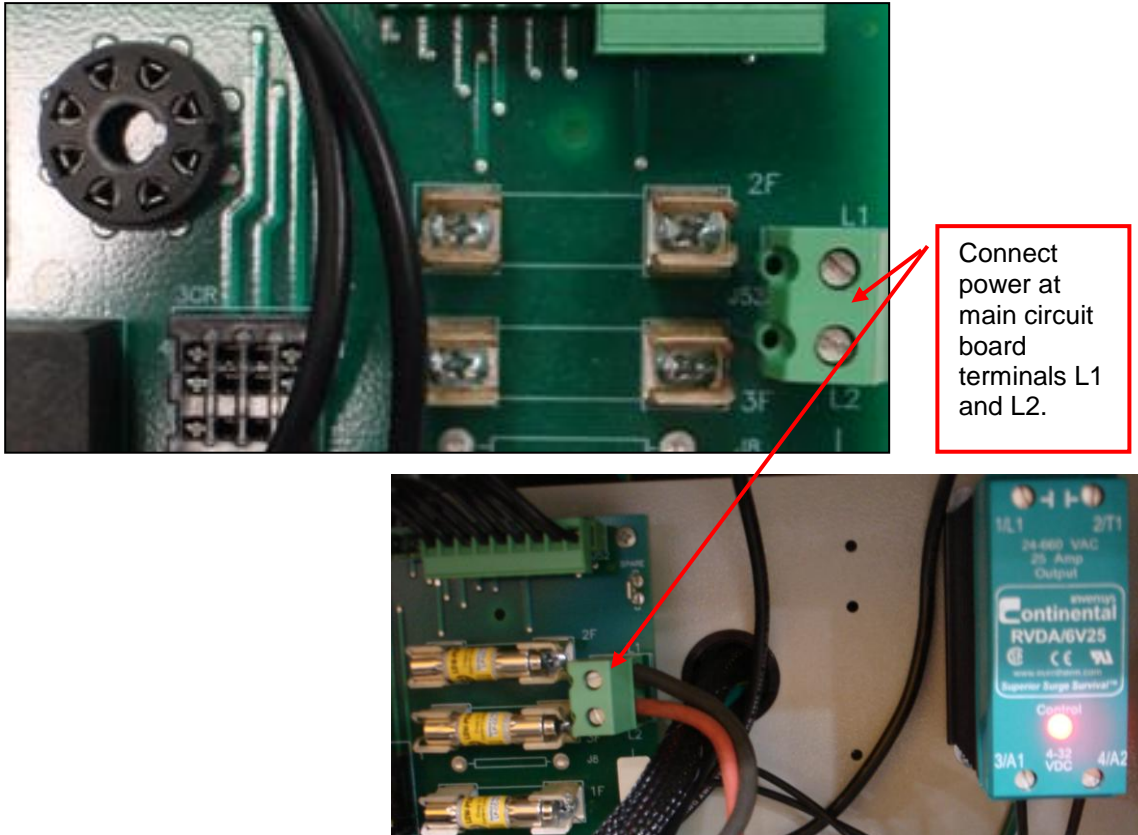

Figure 8. Power Connections at Main Circuit Board.
3. Connect power at main circuit board (access by opening hinged control panel), terminals L1 and L2 (Figure 8).